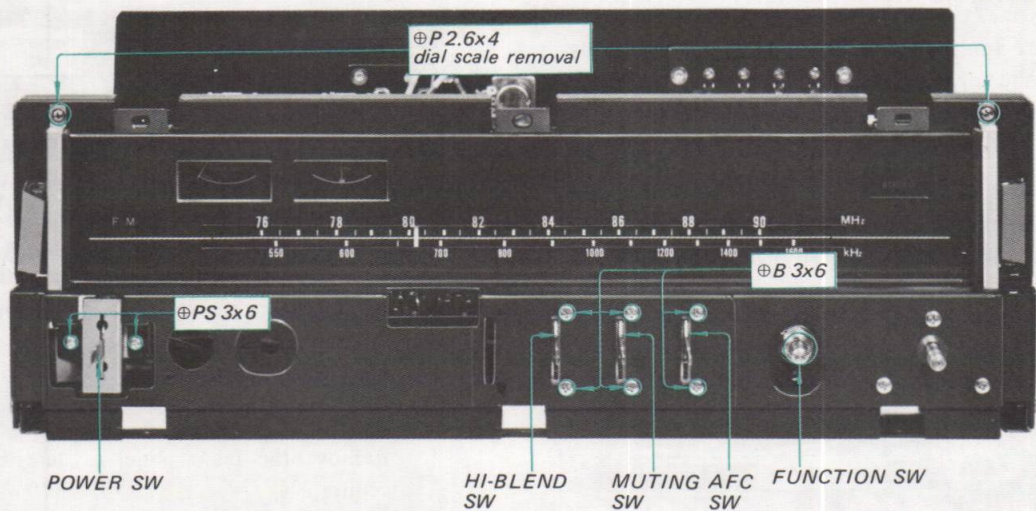

Fig. 2-13. Dial scale, switch and control replacement
2. Remove the screws securing the dial scale holder at both sides of the front subchassis as shown in Fig. 2-13. This frees the dial scale.
1. Remove the hex nuts or the screws securing the defective components to the front subchassis as shown in Fig. 2-13.